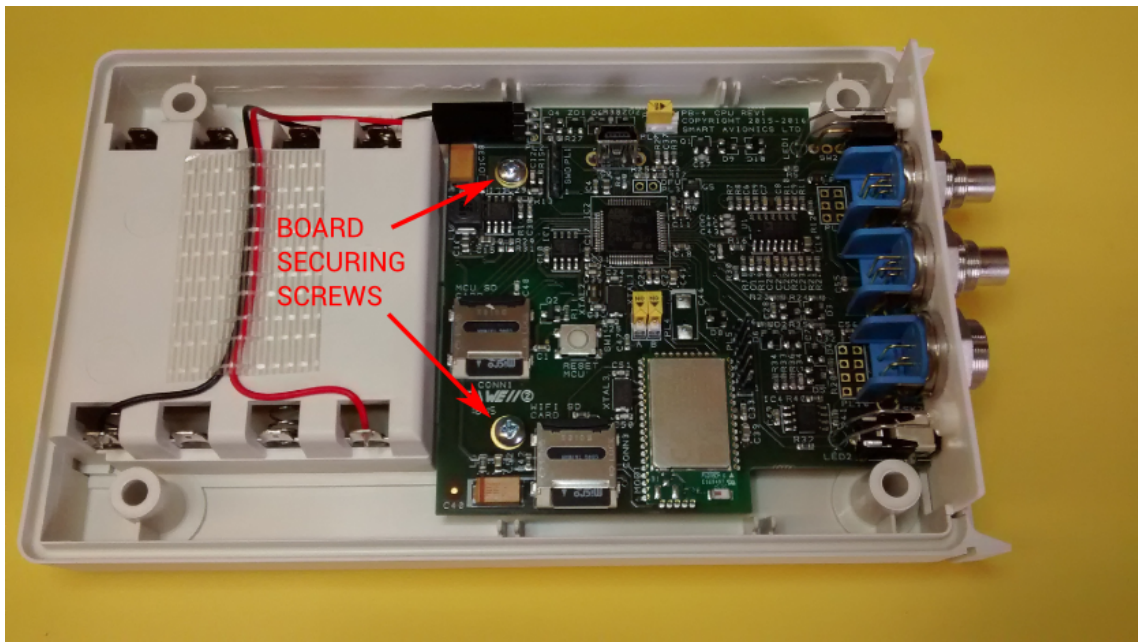

Fig A.1. Locating the PB-4 board securing screws
4. Undo the two screws that hold the circuit board in the case (see Fig A.1).